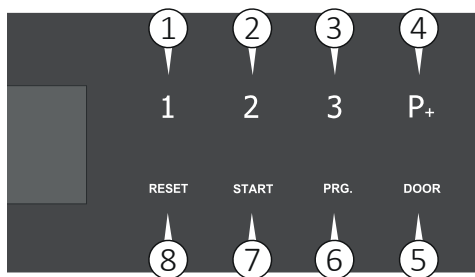

Fig. 13
- 4) With the door open, press and hold key P1 (1 Fig. 13) to refill DOS1 for the detergent; key P2 (2 Fig. 13) to refill DOS2 for the neutralizer; key P3 (3 Fig. 13) to refill DOS3 for the lubricant/rinse aid liquid; key P+ (4 Fig. 13) to refill DOS4 for additive liquid.
- 6) With the door open, press and hold key P1 (1 Fig. 13) to refill DOS1 for the detergent; key P2 (2 Fig. 13) to refill DOS2 for the neutralizer; key P3 (3 Fig. 13) to refill DOS3 for the lubricant/rinse aid liquid; key P+ (4 Fig. 13) to refill DOS4 for additive liquid.
- 1) Open the door using the “DOOR” button on the touch screen (4 Fig. 13), if the door is already open, leave it opened;
- 3) Press and hold the button corresponding to the dosing pump you wish to activate to manually load the hydraulic system: key P1 (1 Fig. 13) on the touch screen for pump DOS1; key P2 (2 Fig. 13) on the touch screen for pump DOS2; key P3 (3 Fig. 13) on the touch screen for pump DOS3; key P+ (4 Fig. 13) on the touch screen for pump DOS4.